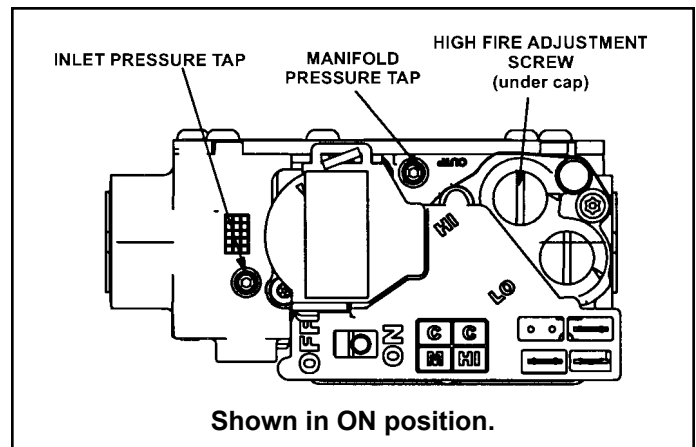

Figure 45. White Rodgers Gas Valve
See Figure 45
6. Move gas valve switch to OFF position. Do not force. See Figure 45.
7. Wait five (5) minutes to clear out any gas. If you then smell gas, **STOP!** Immediately call your gas supplier from a neighbor's phone. Follow the gas supplier's instructions. If you do not smell gas go to next step.
8. Move gas valve switch to ON position. Do not force. See Figure 45.
4. Move gas valve switch to OFF position. Do not force. See Figure 45.
1. Connect test gauge to manifold pressure post tap (Figure 45) on gas valve.
4. If necessary, make adjustments. Figure 45 shows location of high fire adjustment screw.